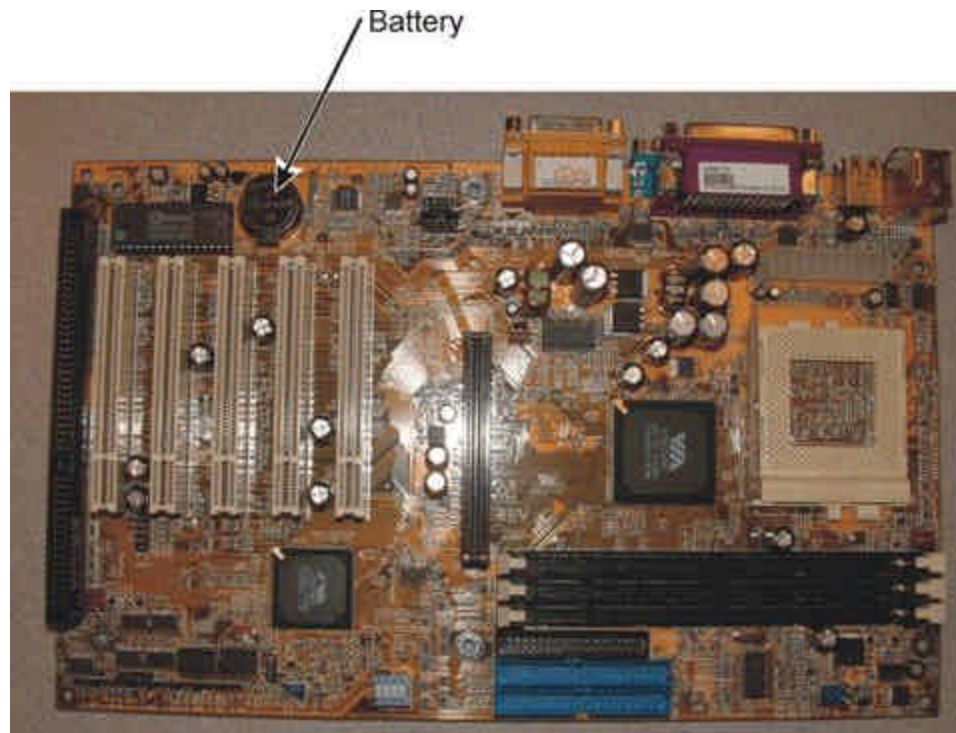

Figure 3: DFI CA64-TC Motherboard
- DFI CA64-TC (ATX form factor, gold in colour) (Shipping May 2004 to current) See Figure 3.